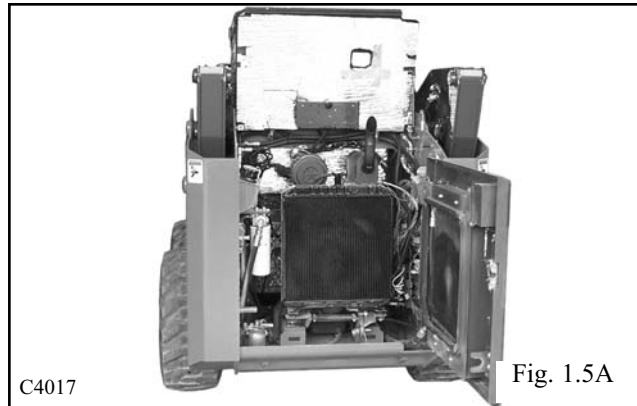

Fig. 1.5A
- 2 Open the rear door and raise the engine compartment cover to gain access to the hydraulic filter. (Fig. 1.5A, 1.5B)